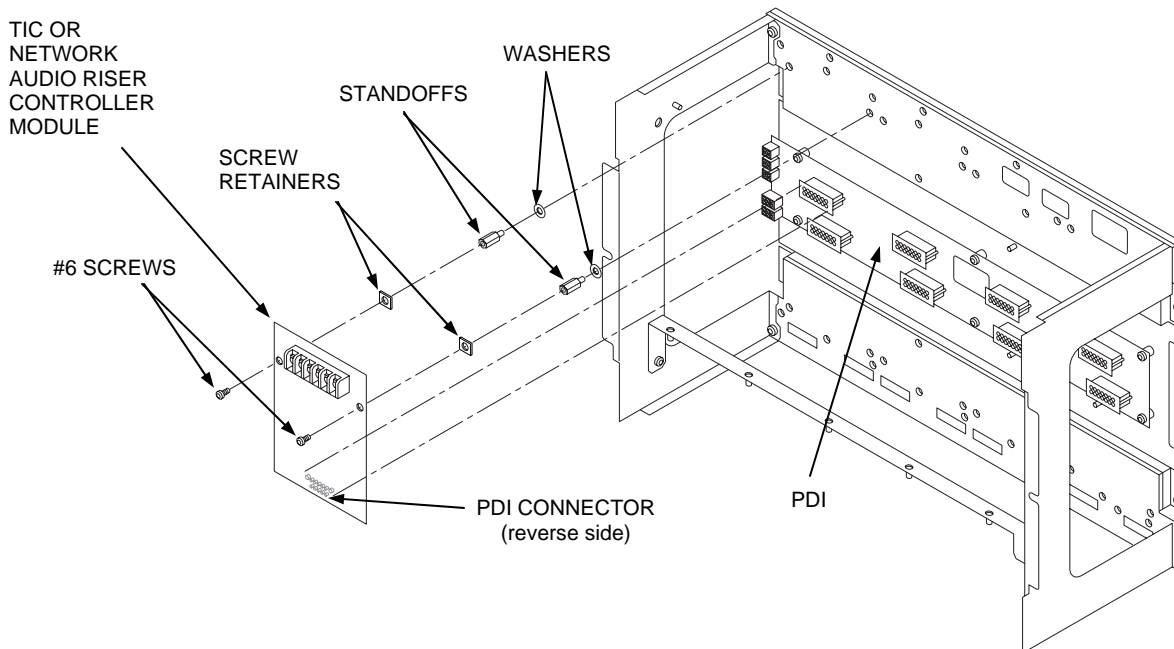

Figure 4. TIC or Network Audio Riser Controller Module Mounting
1. Screw two standoffs and washers to the appropriate holes in the back of the cabinet. These holes must line up with the screw holes in the 4 X 5 card. See Figure 4.
Note: Figure 4 is a general-purpose illustration that applies to most 4" X 5" cards.